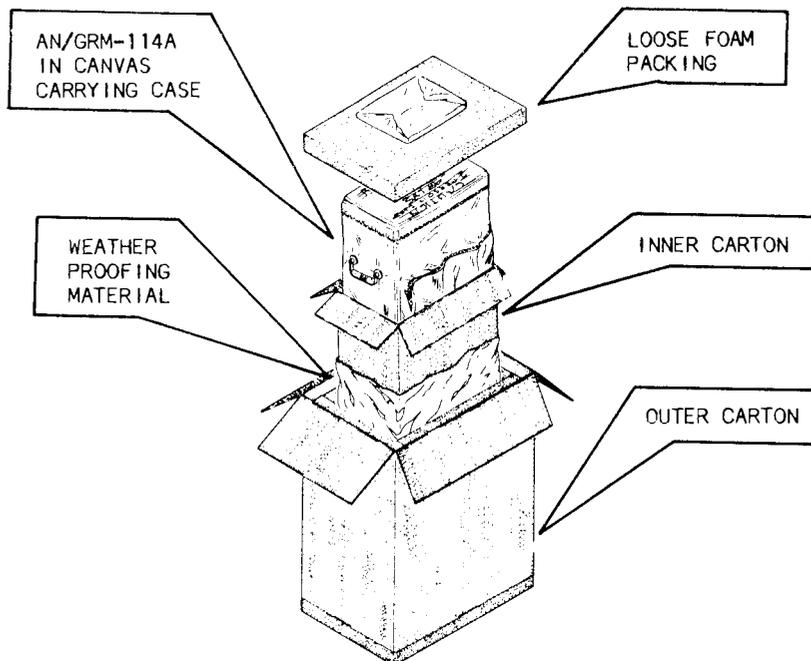

Figure 2-6. Packing the AN/GRM-114A.
**2-18 PACKING FOR STORAGE OR SHIPMENT (See Figure 2-6),**